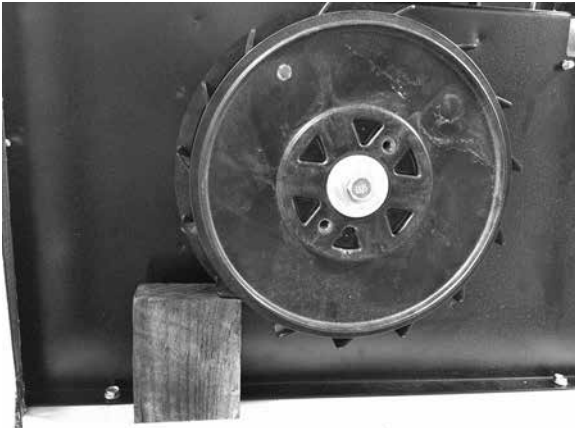

Figure 120.
- c. Place a second 2x4 wood block as shown in Figure 120 and 120.